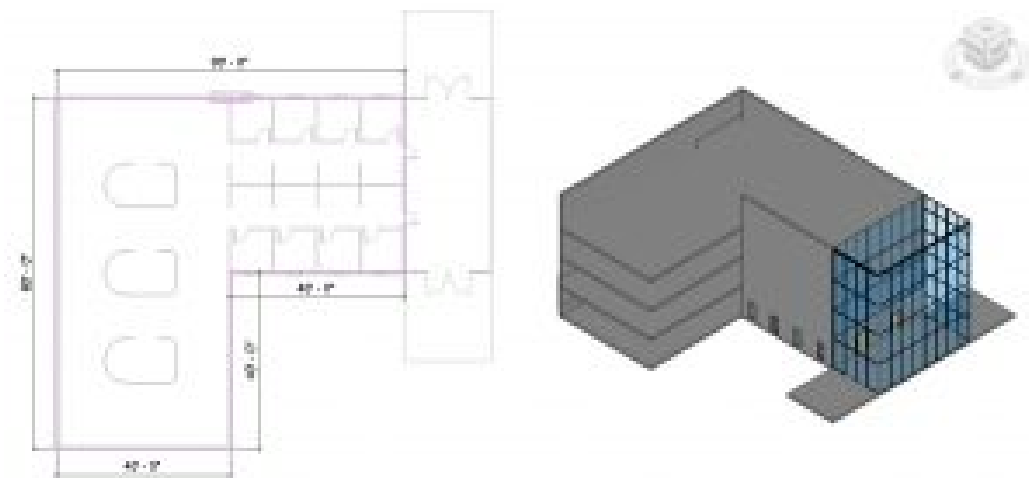

Figure 3.10 Floor shown in plan view and finished floor in 3D view
5. Hover the cursor over any wall, use the Tab key to cycle through the selection options until the centerline is highlighted with a blue line, click to select the line. Follow this step until all boundaries have been selected as shown on the left in Figure 3.10
12. Click OK. The result is shown on the right in Figure 3.10